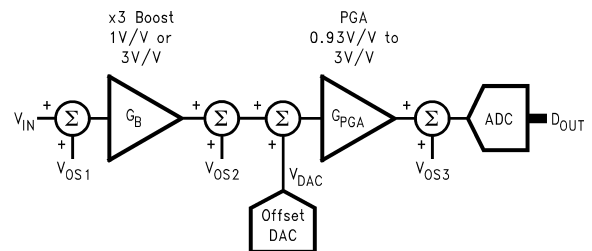

FIGURE 9. Internal Offset Mode
Figure 9 is a model of the LM9810/20's internal offsets. Equation (5) shows how to calculate the expected output code given the input voltage ( $V_{\text{IN}}$ ), the LM9810/20 internal offsets ( $V_{\text{OS1}}$ ,  $V_{\text{OS2}}$ ,  $V_{\text{OS3}}$ ), the programmed offset DAC voltage ( $V_{\text{DAC}}$ ), the programmed gains ( $G_{\text{B}}$ ,  $G_{\text{PGA}}$ ) and the analog channel gain constant C.